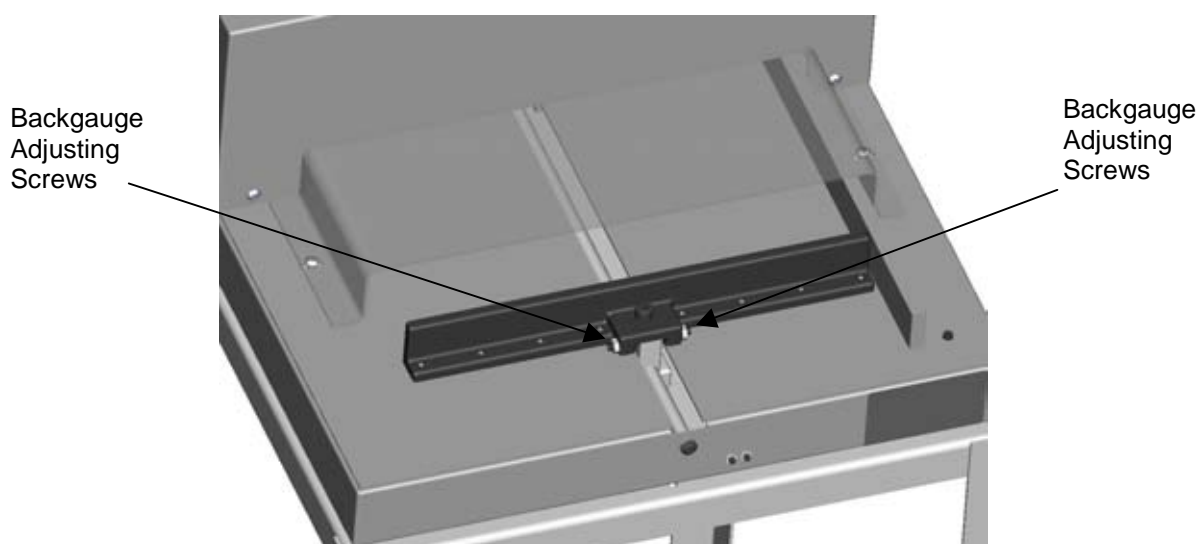

Figure 7
2. Loosen the jam nuts on the backgauge adjusting screws. (Figure 7).